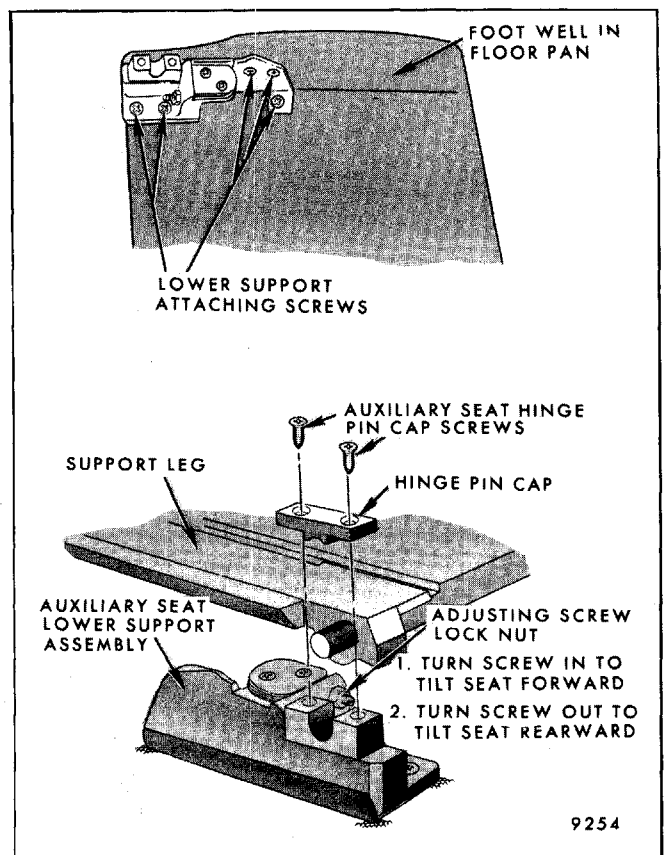

Fig. 9-101-Auxiliary Seat Lower Support and Adjustment - Cadillac Limousine Styles
4. Remove auxiliary seat hinge pin cap screws; then remove cap and auxiliary seat assembly (Fig. 9-101).
3. Loosen the hex head adjusting screw lock nut at both inboard and outboard support (see Fig. 9-101).
4. Carefully turn the adjusting screw (see Fig. 9-101) at both supports the SAME AMOUNT to allow the seat to pivot rearward further, thereby providing additional leg room for the auxiliary seat passenger. Tighten the adjusting screw lock nut at both supports.
2. Remove lower support assembly attaching screws shown in Figure 9-101 and remove support assembly.